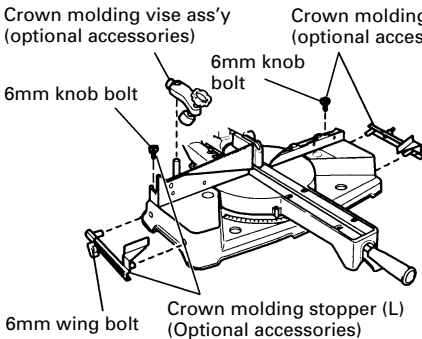

Fig. 47-a
- (1) Crown molding Stopper (L) and (R) (optional accessories) allow easier cuts of crown molding without tilting the saw blade. Install them in the base both-sides side to be shown in Fig. 47-a. After inserting Tighten the 6mm knob bolts to secure the crown molding Stoppers.